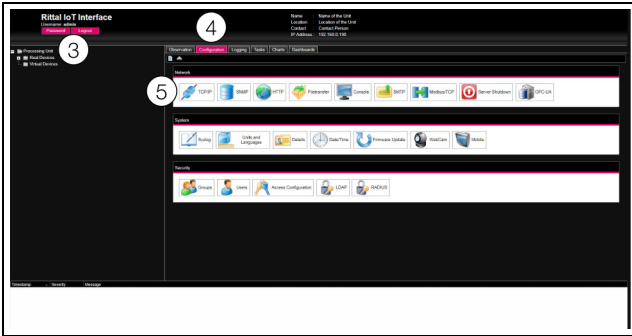

Fig. 10: Customising the TCP/IP settings
The overview page of the device appears (fig. 10).
- Click the **Processing Unit** entry in the left-hand sub-area (navigation area) of the overview window (fig. 10, item 3) and the **Configuration** tab in the right-hand subarea (configuration area) (fig. 10, item 4).
- Click the **TCP/IP** button in the **Network** group frame (fig. 10, item 5).